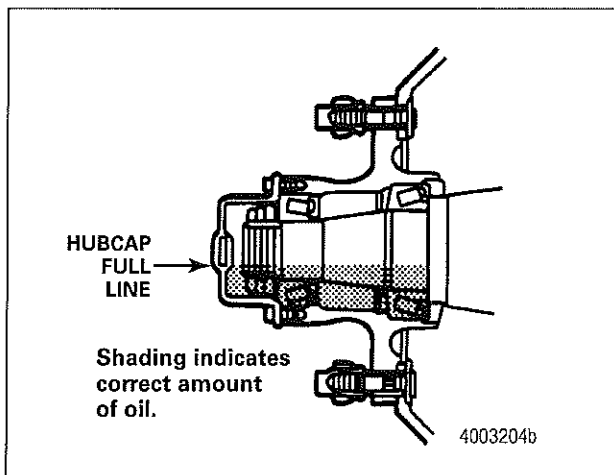

Figure 31
- B. Install the hubcap fill plug and tighten to 15-20 lb-ft (20-27 N•m). Figure 31.